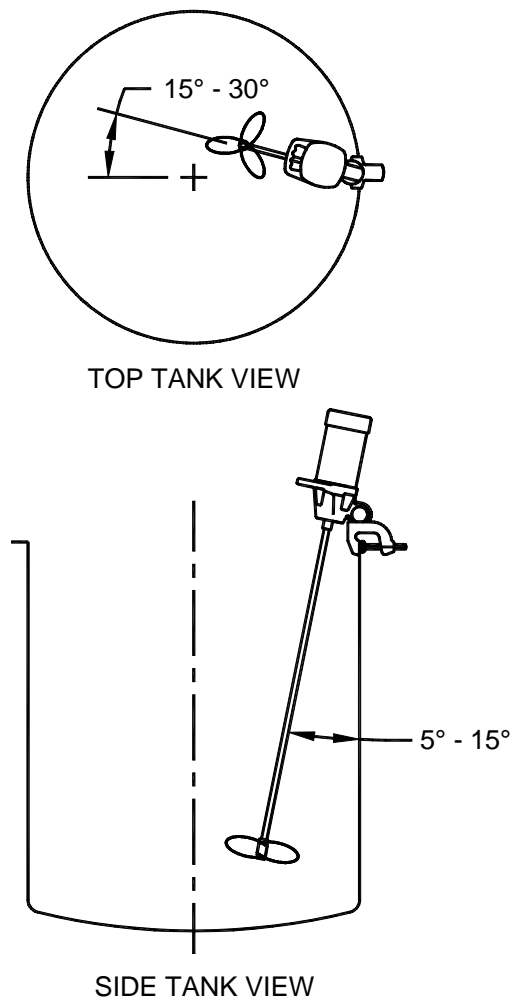

Figure 2: Model XPC, Installation
Figure 2: Model XPC, Installation .....	7
- b. After orientation of mixer is determined (reference *Figure 2, page 7*), torque hex nut **[155]** in the socket area to 50 ft-lb (67.8 Nm).
8. In operation, some adjustments of position may be required to obtain best mixing results. Adjust orientation of mixer as shown in *Figure 2, below* for best top to bottom flow and optimum mixing efficiency. Both the clamp and cup plate mount assemblies provide for 3-dimensional adjustment.